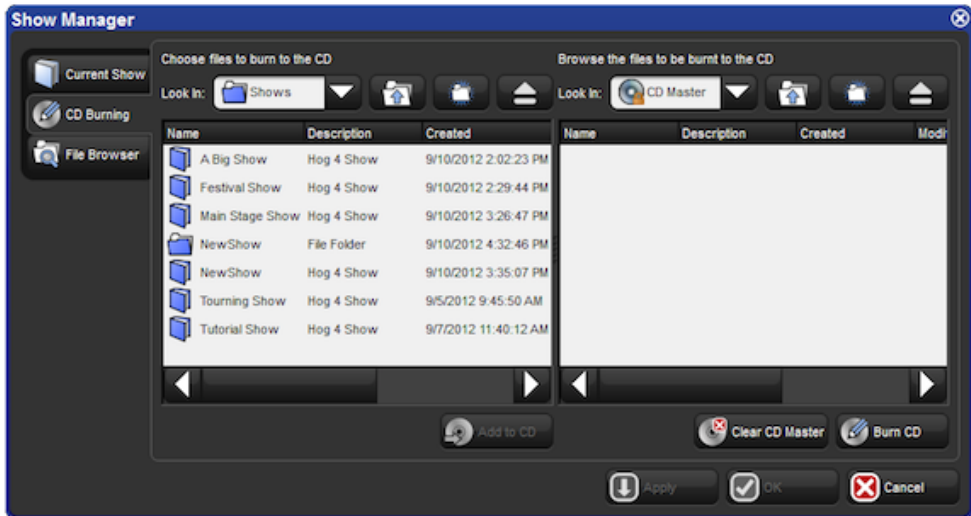

Figure 2.17. The CD Burning pane of the Show Manager window
1. Setup → Shows → CD Burning : see *Figure 2.17, "The CD Burning pane of the Show Manager window"*.